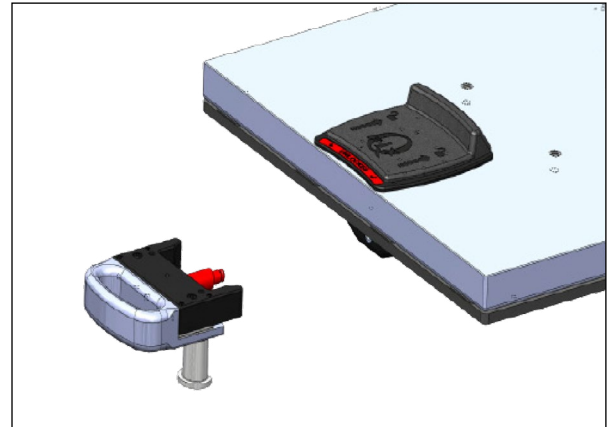

Fig. 36
- Slide the CT Overlay towards the CT cradle Foot End until the red Alignment Pin is close to the metal pin on the Foot End Mounting Assembly (Fig. 36).